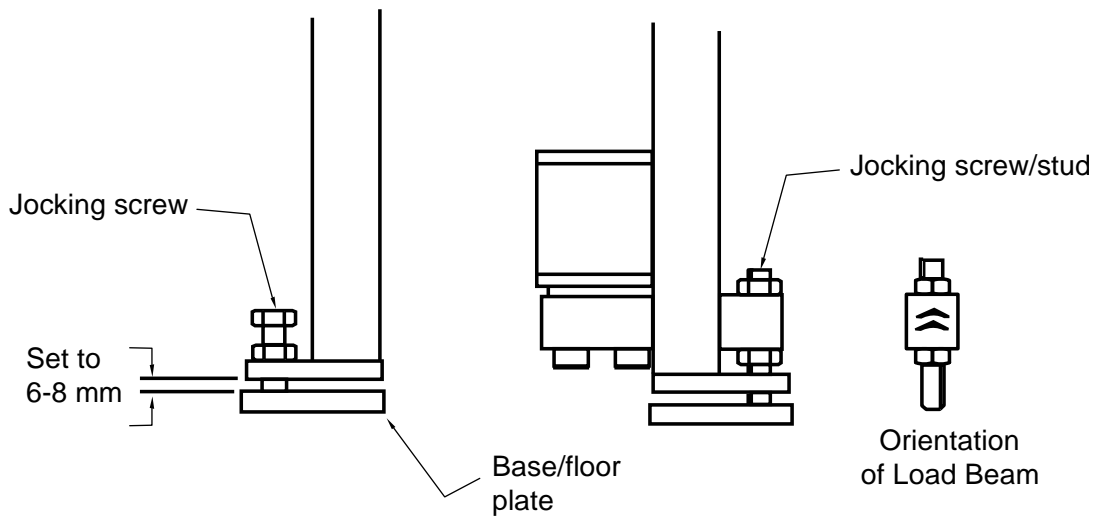

Fig.4
5. Remove yellow painted travel bolts that fix the *SAFE* legs to the floor plates. Using the Jacking screws raise the legs so that there is 6 to 8 mm clearance between the bottom of the legs and top of floor indicate. (Fig 4)